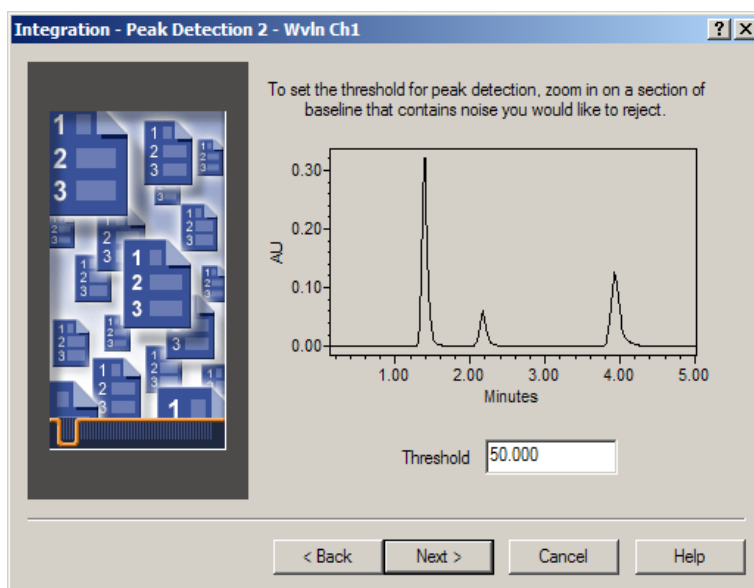

Figure 4-18 Integration - Peak Detection 2 Page
6. Click **Next** to go to the Integration - Peak Detection 2 page (Figure 4-18).